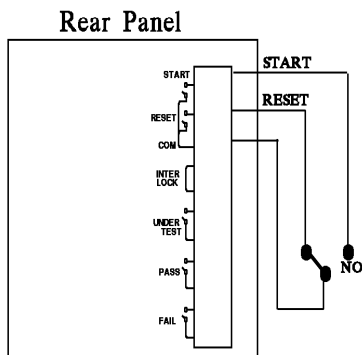

Figure 3-2
2. If it is connected as Figure 3-2 shows, the system routine is in STOP state as the NC is connected to STOP and NO is connected to START.